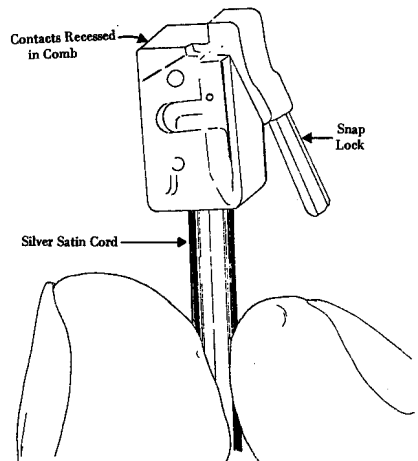

FIGURE 1. Miniature Plug
1.04 The modular concept relies on a miniature plastic plug and jack arrangement. The plug is shaped to be inserted in one position only which guarantees polarity. The plug contacts are recessed in a comblike configuration and are precious metal covered. The plug has an integral snap lock that secures the plug into the jack. The jack has flexible wire spring contacts that are precious metal covered. When the jack receives the plug, the comb on the plug separates and insulates the contacts from one another. The design of the plug and jack allows for wire spring travel, ensuring good contact. See Figure 1.